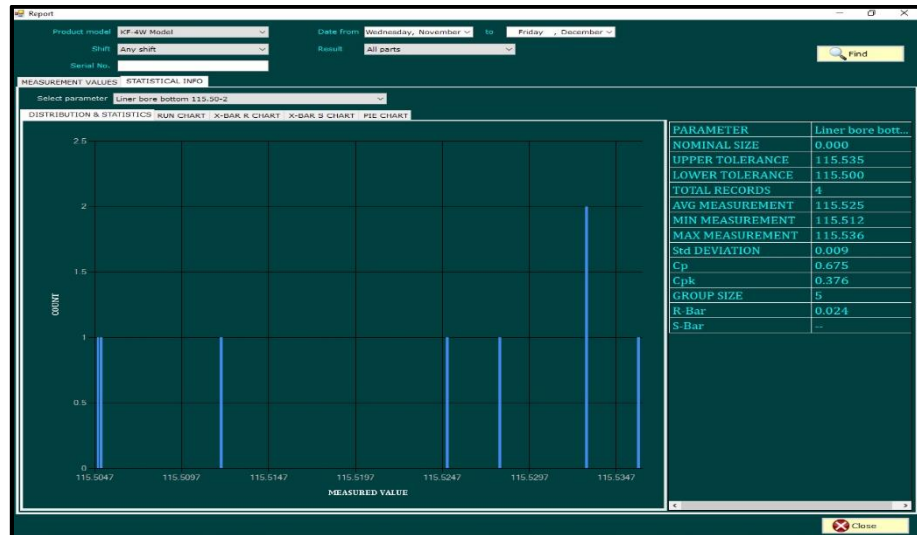

Figure 16
- Measurements Values:** Click on the find button and its product report will be shown here as shown in figure 16.